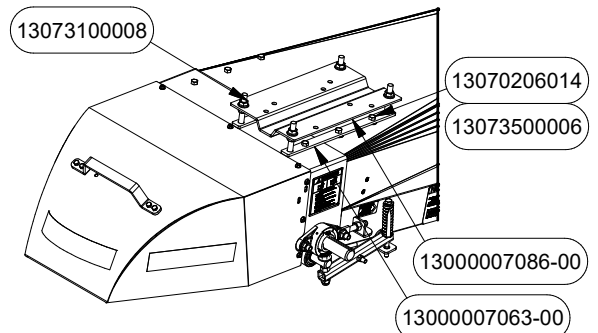

FIGURE 17
17. Install motor mount adjusters PN# 7063 onto jump, fasten with bolts PN# 13070206014. Use washers PN# 130735000006 as spacers underneath motor mount adjusters where necessary. Note that locations for motor mount adjusters vary depending on whether a gas engine or electric motor is used. Gas engine setup shown, electric motor is opposite. Install bolts PN# 13070206014 in unused holes. See Figure 17. Bolts are found in motor mount bolt bag PN# 7342. motor mount bolt bag and all parts are found in hardware box PN# 7346.
17. Thread one nut PN# 13073100008 onto each of the motor mount adjuster studs with the flange side up. Slide motor mount onto the motor mount adjuster studs and thread one more nut PN# 13073100008 onto each stud, flange side down. See Figure 17. Nuts are found in gas motor bolt bag PN# 7345, motor mount bolt bag and motor mount are found in hardware box PN# 7346.